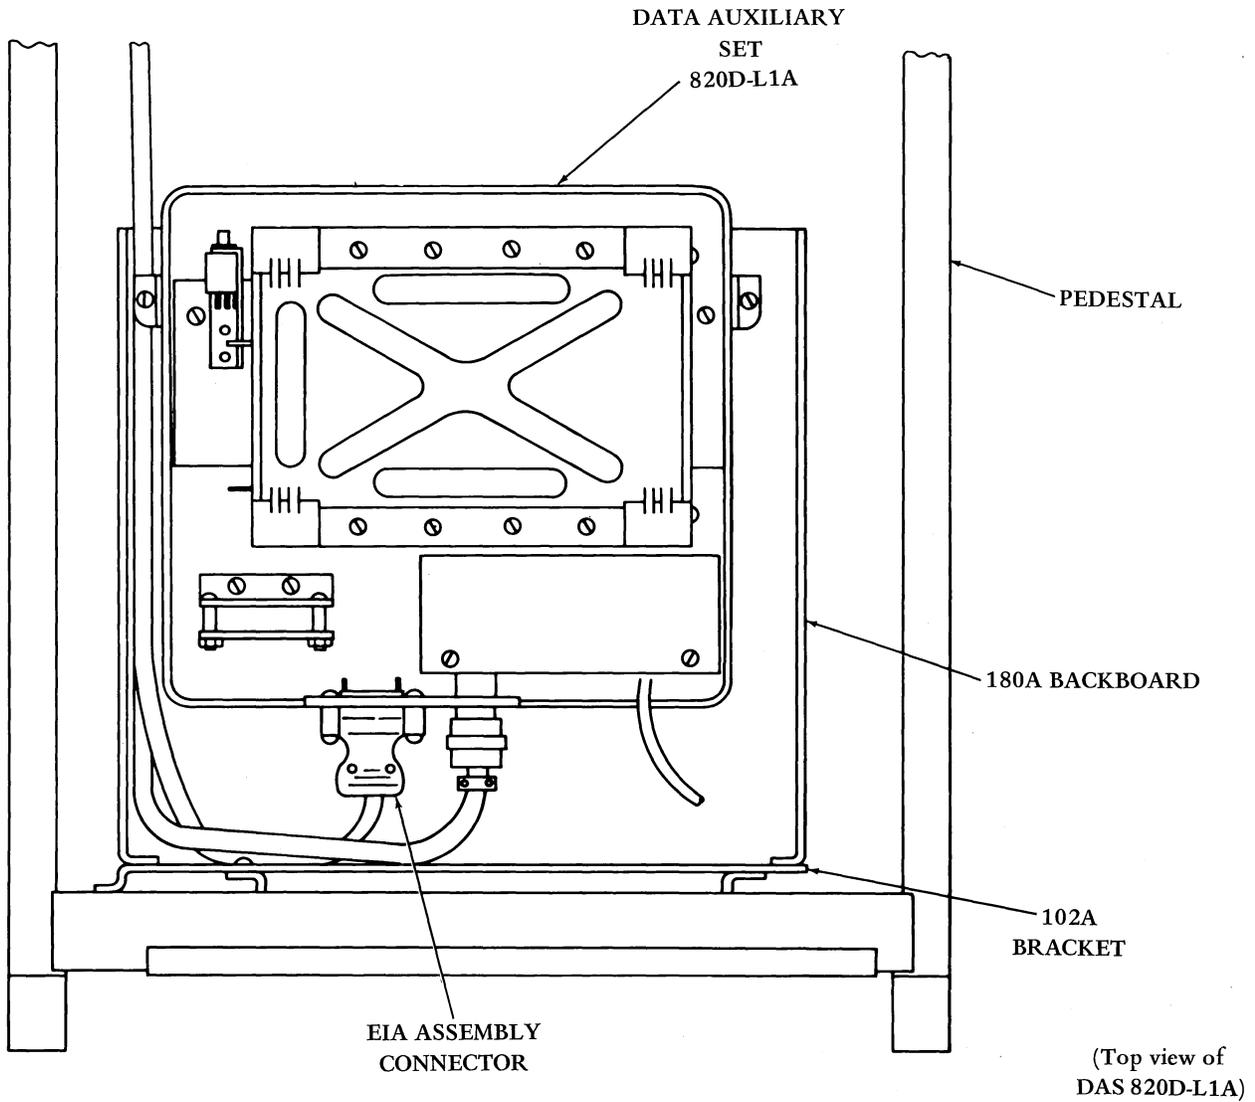

Figure 4 - Mounting of DAS 820-L1A on 33 Set
3.08 The following procedures, (1) through (5), refer to Figure 4 for installation of bracket 102A, backboard 180A, and DAS 820D-L1A into the teletypewriter pedestal.